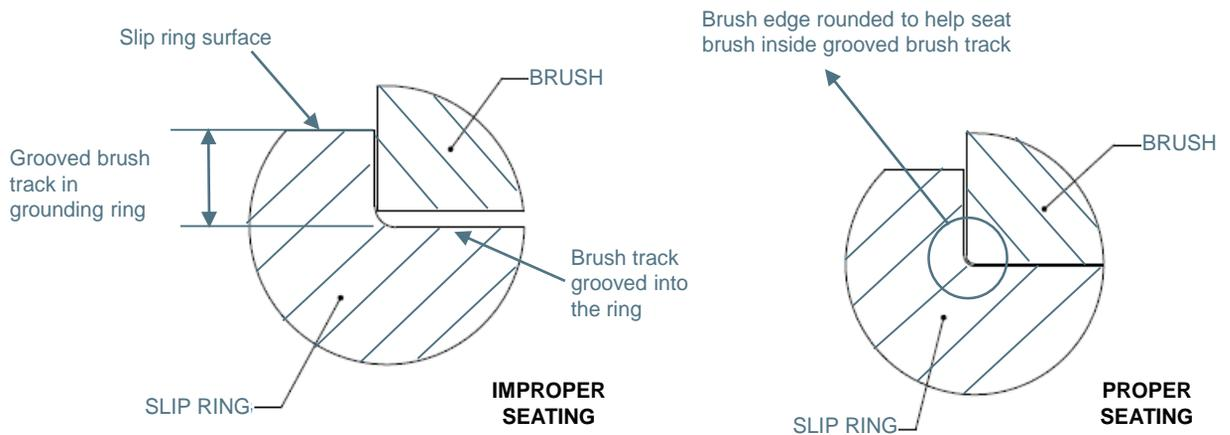

Figure 7 - Brush seating into groove on ground ring (drawing not to scale)
- If groove depth less than 0.5mm: Use emery cloth to sand edges of brush to ensure that the brush sits in the grooved slot and makes contact with the ring. Monitor ground ring in every maintenance cycle for groove depth change. Allowing the turbine to run in "speed control" mode at 300RPM for 30 minutes before going online also helps to seat in the brush. Brush seating inside grooved ground ring brush track is illustrated in figure 7: